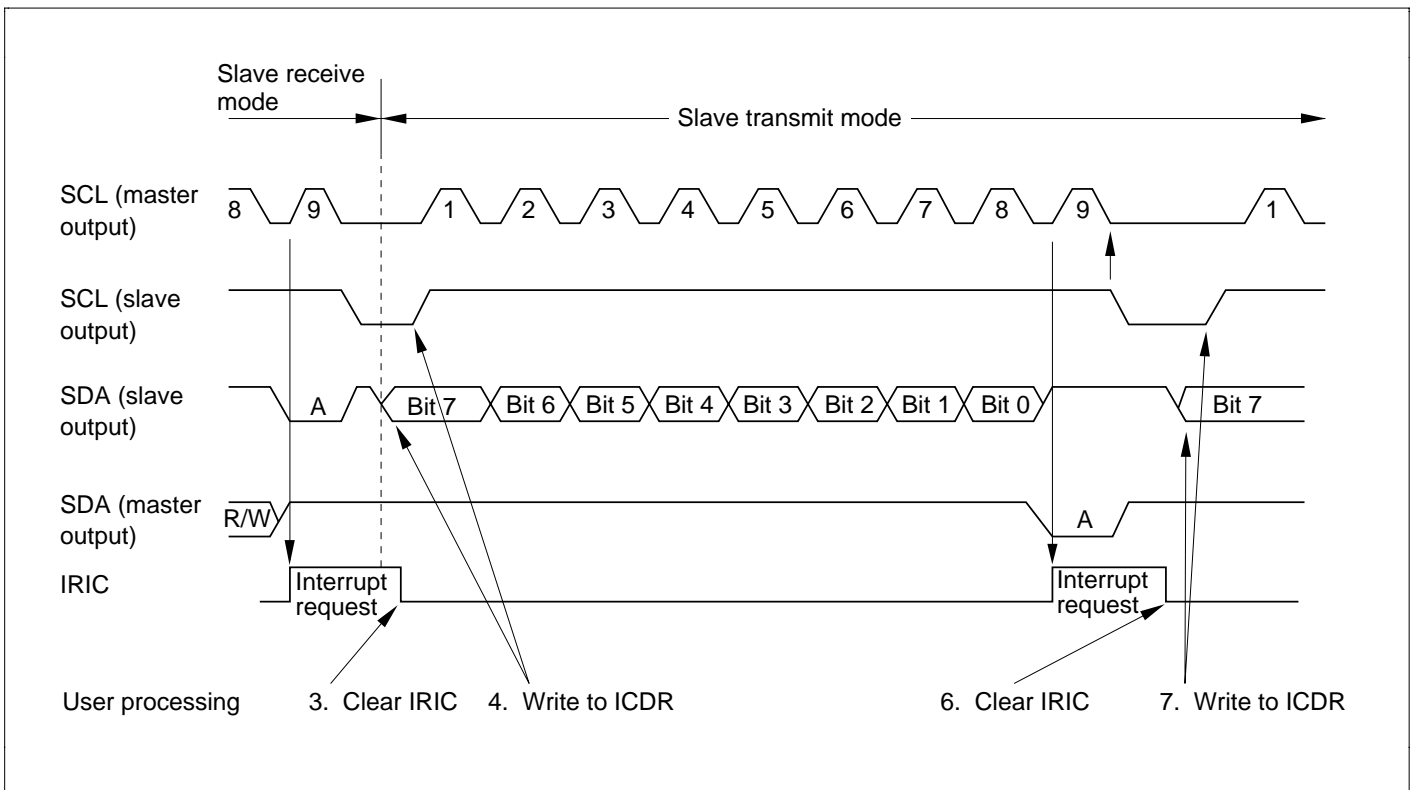

Figure 14-8 Timing in Slave Transmit Mode
4. Write data in **ICDR**. The slave device outputs the written data serially in step with the clock output by the master device, with the timing shown in figure 14-8.